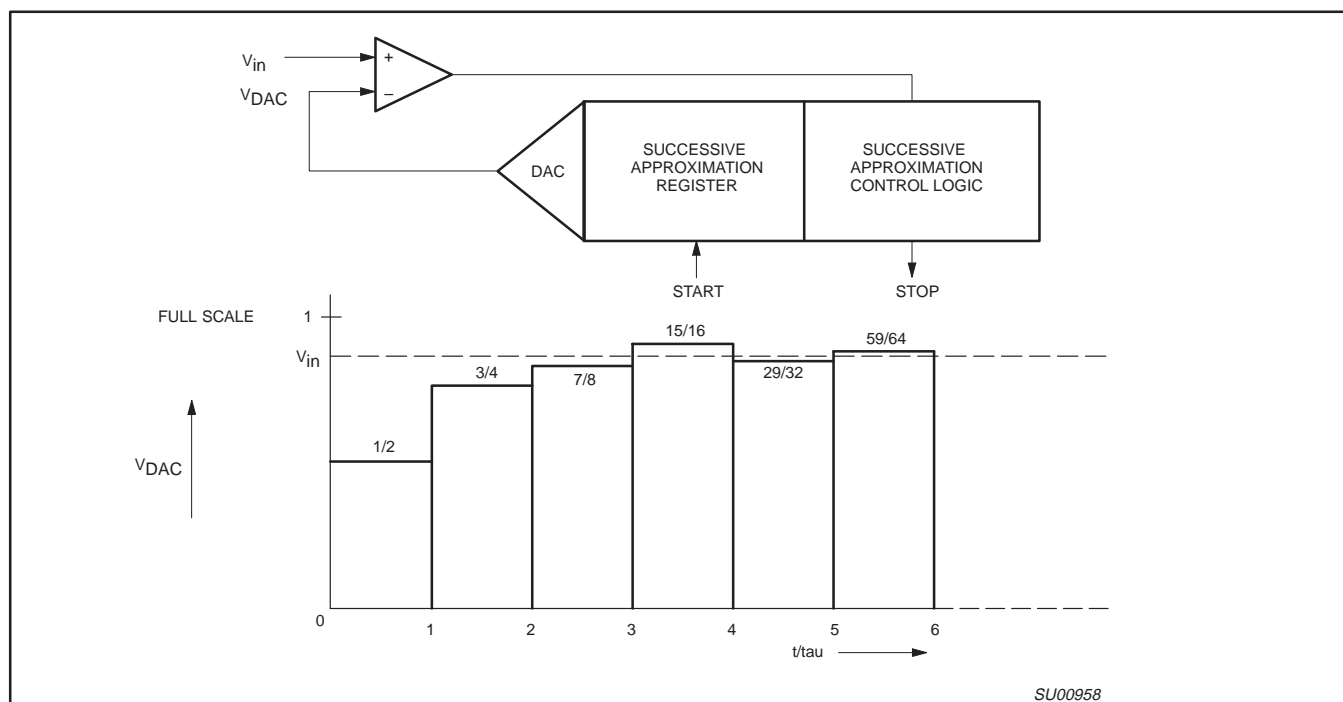

Figure 20. Successive Approximation ADC
Analog-to-Digital Conversion: Figure 20 shows the elements of a successive approximation (SA) ADC. The ADC contains a DAC which converts the contents of a successive approximation register to a voltage (VDAC) which is compared to the analog input voltage (Vin). The output of the comparator is fed to the successive approximation control logic which controls the successive approximation register. A conversion is initiated by setting ADCS in the ADCON register. ADCS can be set by software only or by either hardware or software.